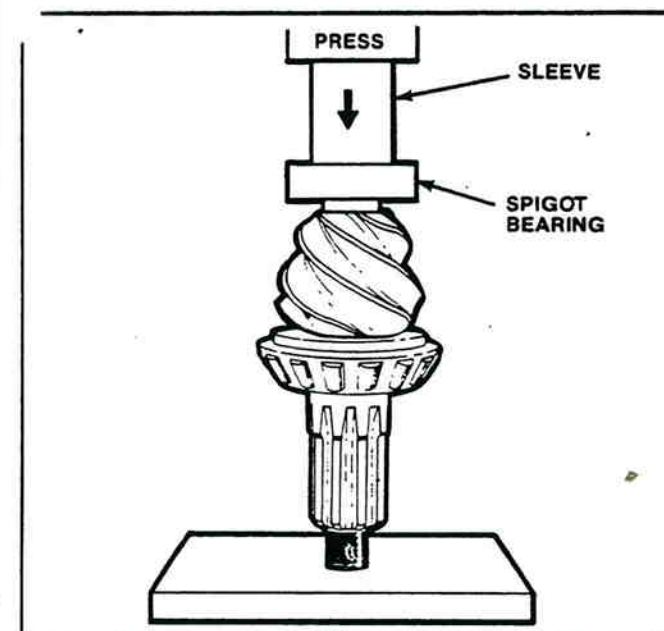

Figure 2-42. Pressing On Spigot Bearing.
1. Put the drive pinion in a press, gear head (teeth) toward the top (Figure 2-42).
2. Press the spigot bearing on the end of drive pinion until the bearing is flat against the gear head. Use a sleeve of the correct size against the bearing inner race (Figure 2-42).